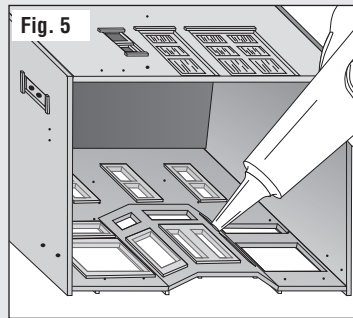

Fig. 5
- Align Window Material over corresponding windows on inside of Building. Verify placement, then glue in place. Dab a small amount of glue carefully around edges (Fig. 5). Repeat for each set of window openings.